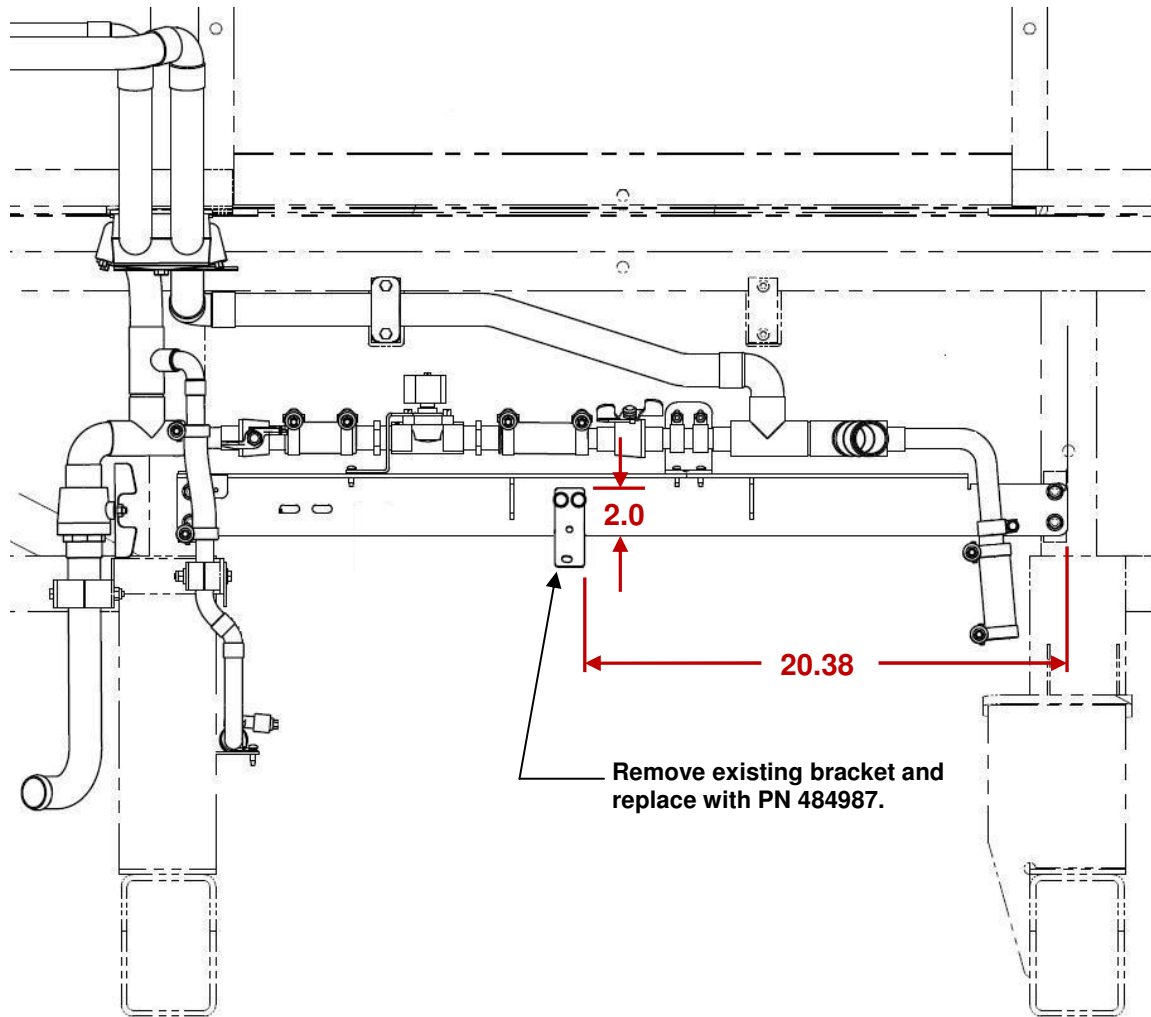

Figure 1 – Clamp Plates (Aux heater and engine removed for clarity)
10. Place the supplied clamp support bracket (NF PN 484987) in the location shown in Figure 1 and secure it in place with two 1/4 inch self tapping screws.(NF PN 34S04012) and two flat washers (NF PN 10W04000). Notch behind the bracket as required for clearance. Apply primer to bare metal revealed by removal of the clamp plate. Refer to Appendix A for primer application instructions.